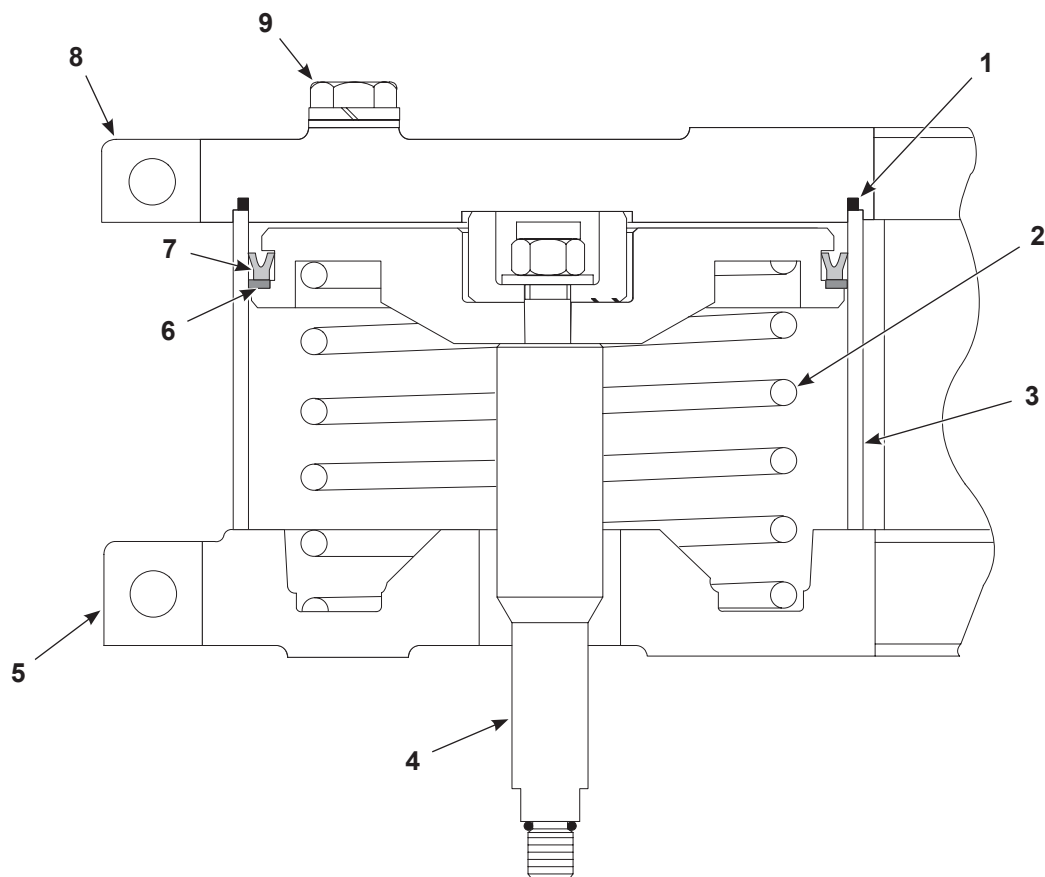

Figure 6-10 Air Motor Rebuild
11. See Figure 6-10. To remove the upper head (8):
- a. Remove six of the hex head screws, lock washers, and flat washers (9). Leave in two screws, one at each end, diagonally opposed to each other.
2. See Figure 6-10. Lubricate new square O-rings (1) and install them in the upper head (8).
3. Lubricate new U-cups (7) and backup rings (6) with Vitalizer oil and install them on the pistons.
4. Install the springs (2) and piston/shaft assemblies (4) in the lower head (5).
7. Slip the cylinders (3) over the pistons at an angle.
8. Set the upper head on top of the cylinders. Insert the cylinders (3) up into the square O-ring grooves. Hold the assembly in place.
9. Install the eight hex head screws, washers, and lockwashers (9) in the upper head.